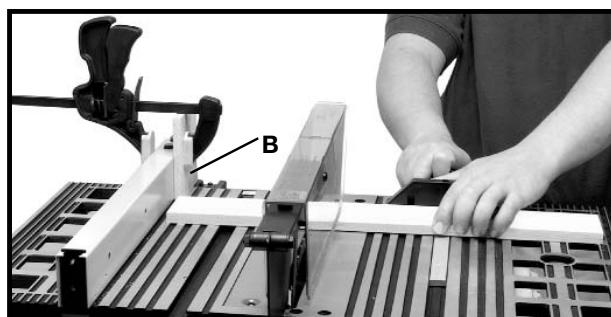

Fig. 42B
When cross-cutting a number of pieces to the same length, a block of wood (B) Fig. 42B can be clamped to the fence and used as a cut-off gage as shown in Fig. 42B. It is important that this block of wood always be positioned in front of the saw blade as shown. Once the cut-off length is determined, secure the fence and use the miter gage to feed the work into the cut. This block of wood allows the cut-off piece to move freely along the table surface without binding between the fence and the saw blade, thereby lessening the possibility of kickback and injury to the operator.
⚠ CAUTION: WHEN USING THE BLOCK (B) FIG. 42B, AS A CUT-OFF GAGE, IT IS VERY IMPORTANT THAT THE REAR END OF THE BLOCK BE POSITIONED SO THE WORK PIECE IS CLEAR OF THE BLOCK BEFORE IT CONTACTS THE BLADE.